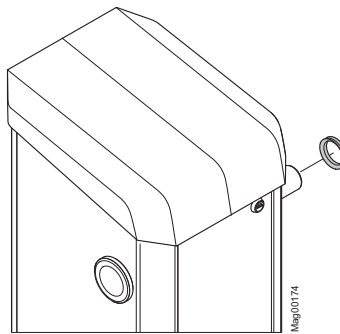

Fig. 33: Remove the v-ring
16. Slip the v-ring over the flange shaft. The sealing lip points towards the barrier housing. → See page 73, Fig. 33.